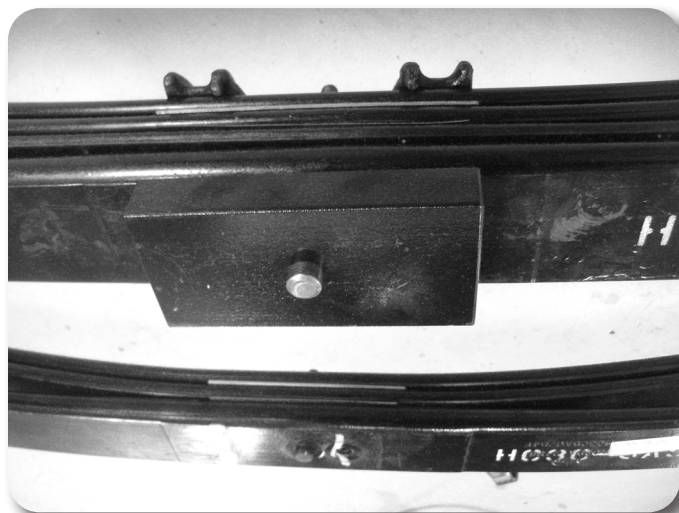

Figure 20
14. Assemble the leaf spring as shown. Use the 1" bolt on block, overload, add-a-leaf, main leaf pack, and top mounted overload springs if equipped (not shown), and upper u-bolt plate. Tighten center pin nut to 20 ft-lbs. Figure 20
17. Attach 1" bolt on block to the bottom of the main leaf pack with new center pin. Tighten to 20 ft-lbs. See Fig 20 above.